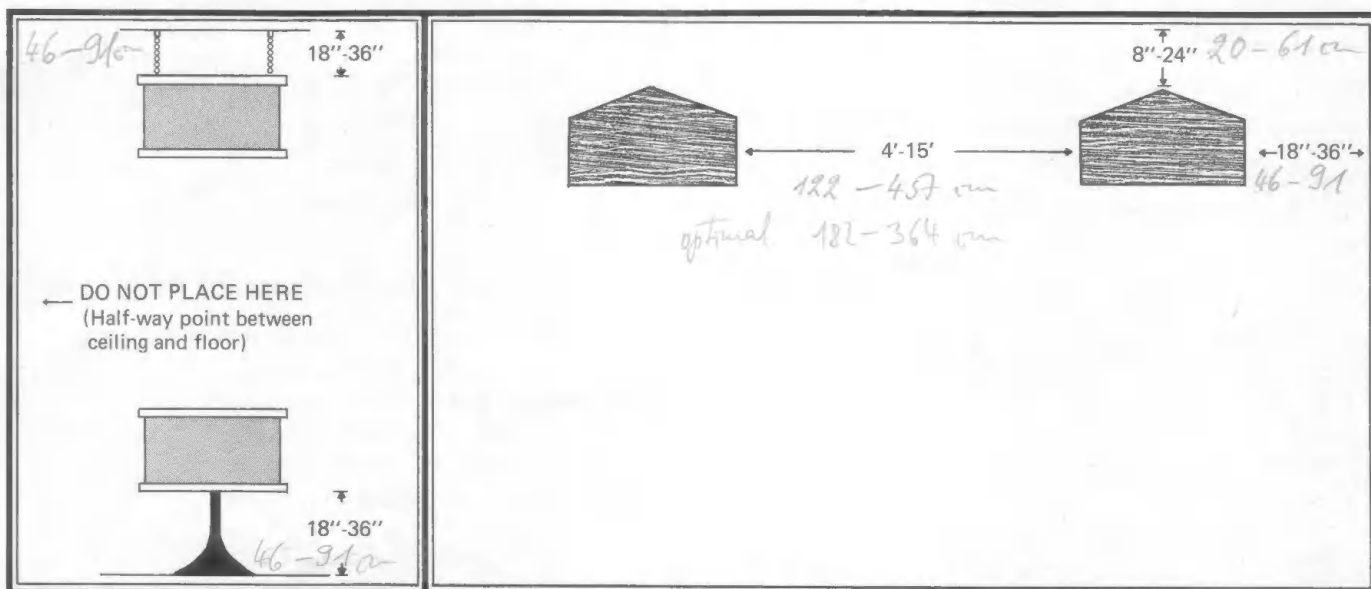

FIG. 1
The angled (vee shaped) grille cloth panels are the back of the 901. Point the vee toward the wall. The distance of the speakers from the wall is very important. The point of the vee should be 12 inches from the wall. (Although the 901 was designed to be placed 12 inches from a reflecting wall, satisfactory performance can be obtained anywhere within the range from 8 to 24 inches.) The point of the speaker should be aimed directly at the reflecting wall, and NOT directly into a corner (See Fig. 1).
2. If you are hanging the speakers from the ceiling, they should be positioned 18 to 36 inches from the ceiling. DO NOT place your speakers exactly half-way between the floor and the ceiling. (See Fig. 1.)